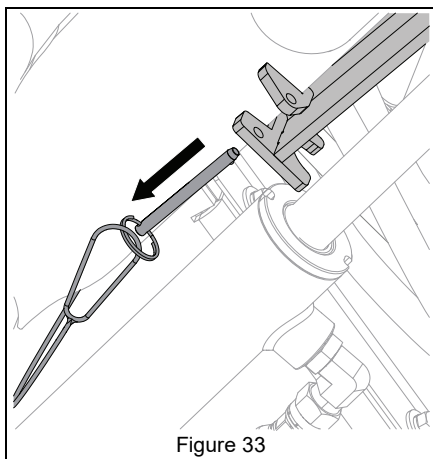

Figure 33
3. Remove hitch pin by pulling ring while holding lift arm support with your other hand. See Figure 33.